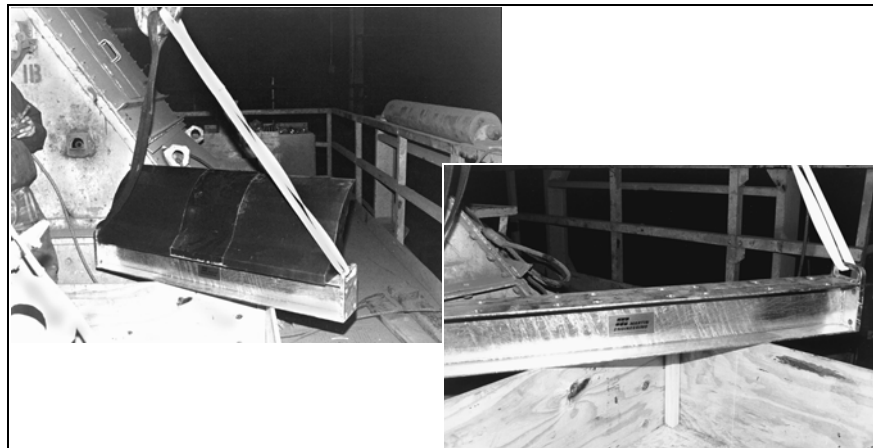

Fig. 5: Transporting the cleaner to the installation
2. Observe during installation that the notch in the shaft stub end is in the tensioning direction (Fig. 5).